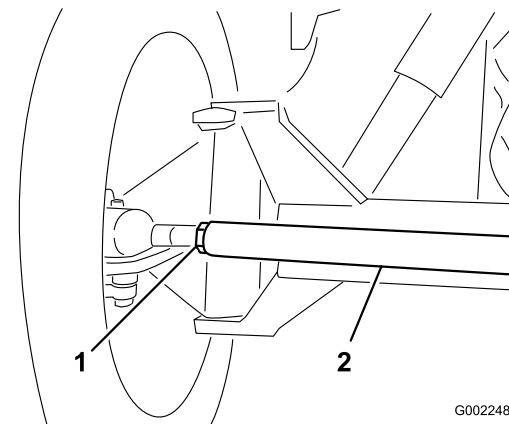

Figure 90
3. If the measurement does not fall within the specified range, loosen the jam nuts at both ends of the tie rod (Figure 90).